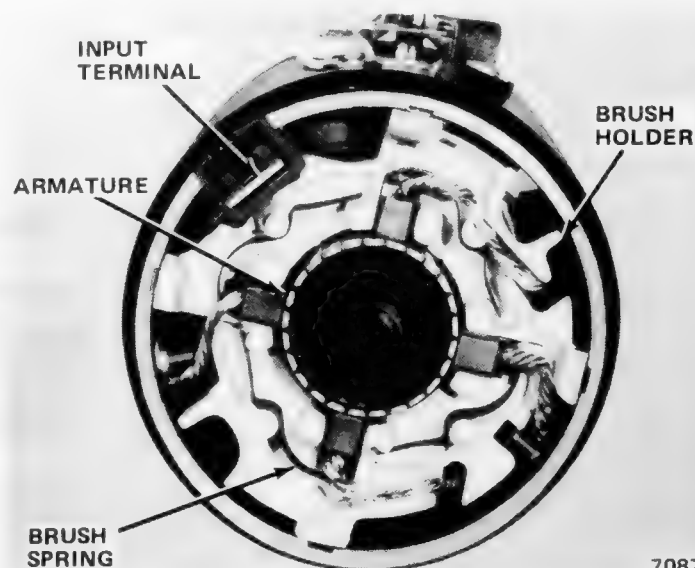

Fig. 1F-16 Brush Wire Routing
- (1) Insert armature into frame. Install drive yoke and pivot pin. Drive yoke must engage lugs on drive assembly.
- (2) Insert drive yoke return spring into recess in drive housing. Install housing to frame.
- (3) Install brush holder. Be sure depression in holder aligns with rubber boot on terminal.
- (4) Insert brushes into brush holder. Refer to figure 1F-16 for proper wire routing. Install brush springs.
- (5) Install end plate. Align hole in terminal with hole in terminal bracket.